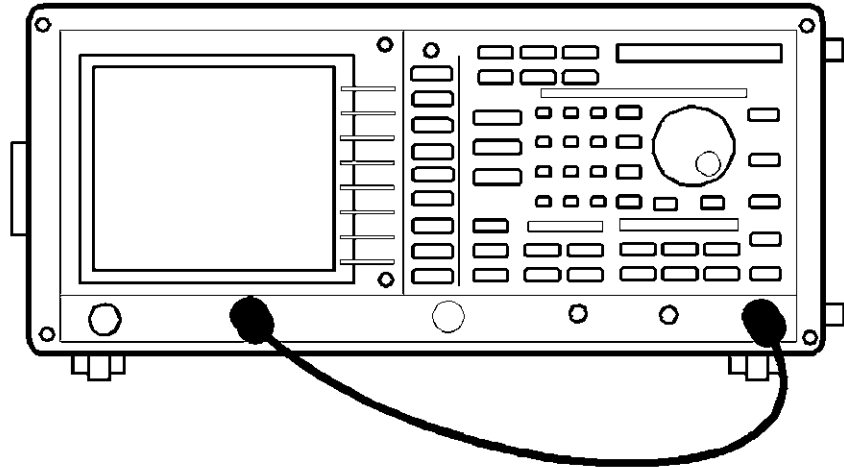

Figure 5-24 Setup of Output Switching Accuracy Test
3. Connect the SMA cable from TG OUT connector to the INPUT connector as shown Figure 5-24.